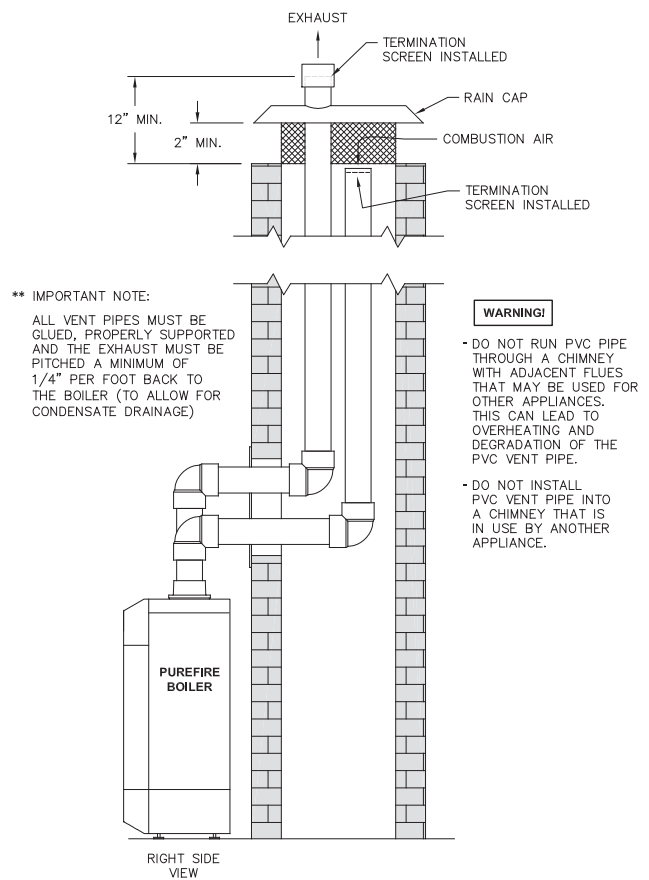

Figure 3.9
- Figure 3.9 shows an option for routing the exhaust and air inlet piping through an unused chimney.